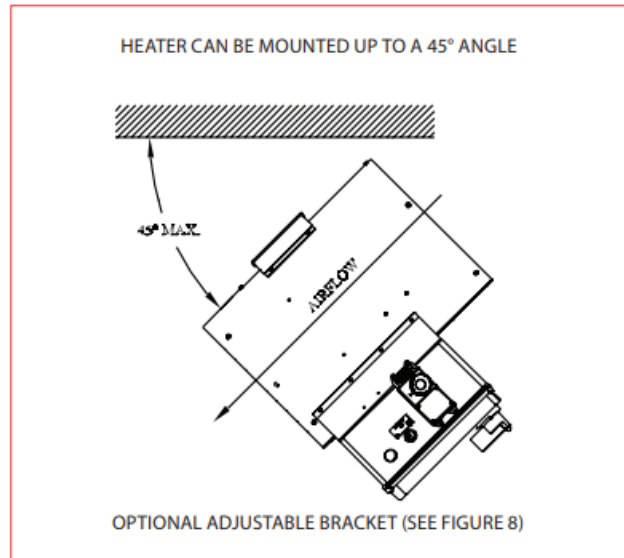

Figure 2
4. Install the bracket (see Figure 2 – 5 for installation instructions).
6. For maximum tilt angles, see Figure 2. For maximum mounting height, see general specifications table on page 13.